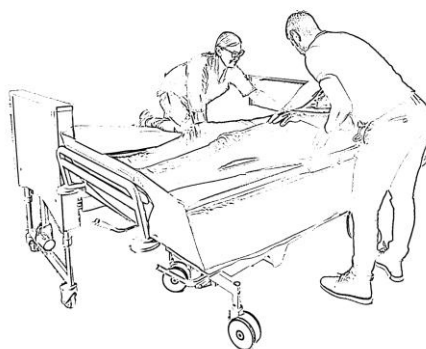

Fig. 4
13. Both caregivers must assist the patient to move towards the middle of the Coral shower trolley (see Figure 4).
8. Both caregivers must assist the patient to move towards the bed (see Fig. 4).